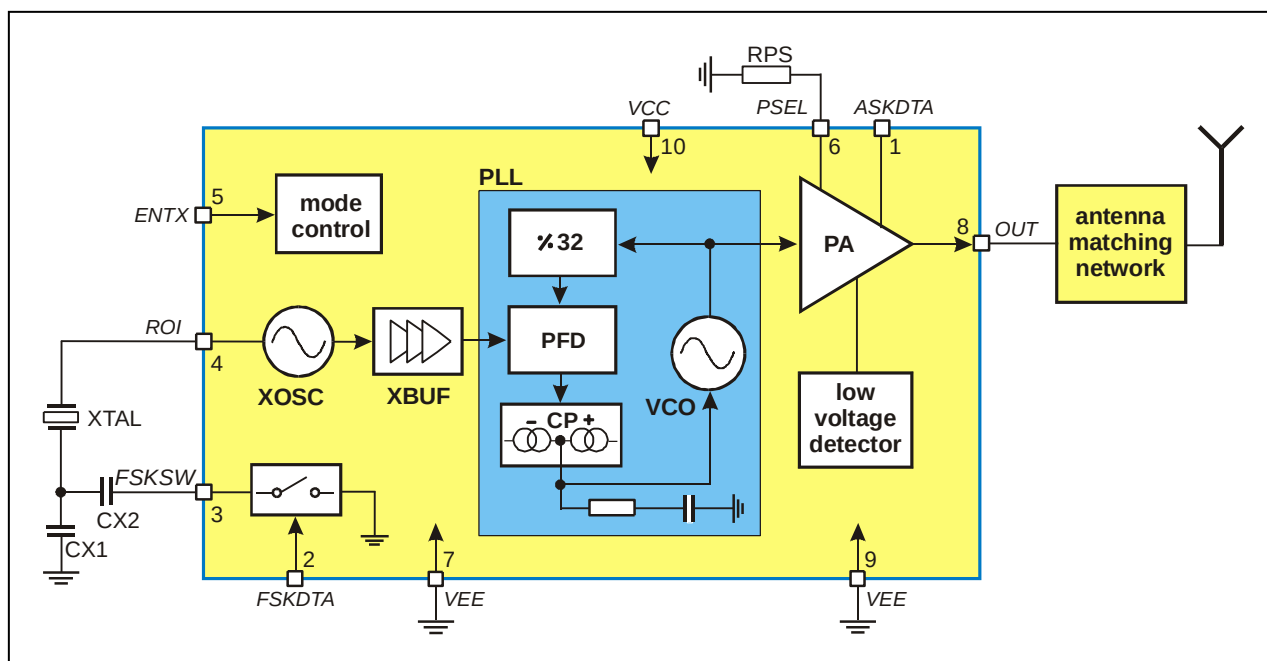

Fig. 1: Block diagram with external components
As depicted in Fig.1, the TH72035 transmitter consists of a fully integrated voltage-controlled oscillator (VCO), a divide-by-32 divider (div32), a phase-frequency detector (PFD) and a charge pump (CP). An internal loop filter determines the dynamic behavior of the PLL and suppresses reference spurious signals. A Colpitts crystal oscillator (XOSC) is used as the reference oscillator of a phase-locked loop (PLL) synthesizer. The VCO's output signal feeds the power amplifier (PA). The RF signal power P_{out} can be adjusted in four steps from $P_{out} = -12$ dBm to +9.5 dBm, either by changing the value of resistor RPS or by varying the voltage V_{PS} at pin PSEL. The open-collector output (OUT) can be used either to directly drive a loop antenna or to be matched to a 50Ω load. Bandgap biasing ensures stable operation of the IC at a power supply range of 1.95 V to 5.5 V.